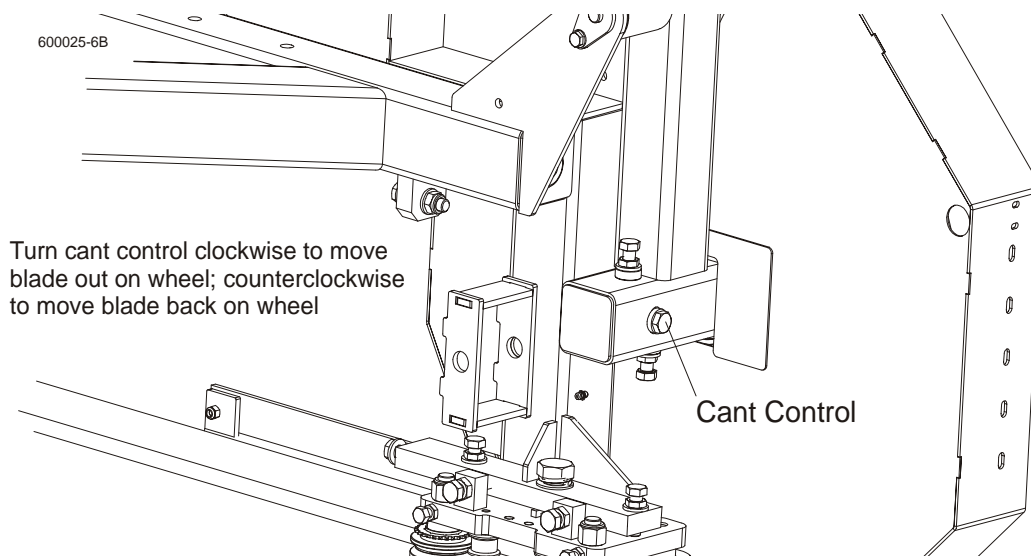

**FIG. 5-23**
**See Figure 5-23.** The horizontal tilt of the blade wheel should be adjusted so that the gullet of a 1-1/4" blade is 1/8" (3 mm) out from the front edge of the wheel ( $\pm 1/16$  [1.5 mm]). The gullet of a 1-1/2" blade should be 3/16" (4.5 mm) out from the front edge of the wheel ( $\pm 1/16$  [1.5 mm]). Do not let the teeth ride on the wheels.